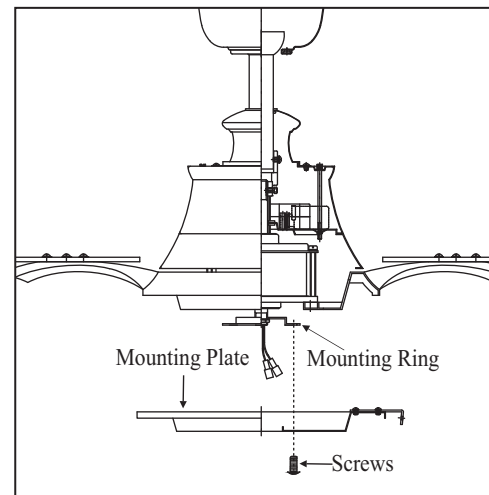

Figure 14
2. Place the key holes on the mounting plate over the 2 screws previously loosened from the mounting ring, turn mounting plate until it locks in place at the narrow section of the key holes. Secure by tightening the 2 screws previously loosened and the one previously removed. (Fig. 14)